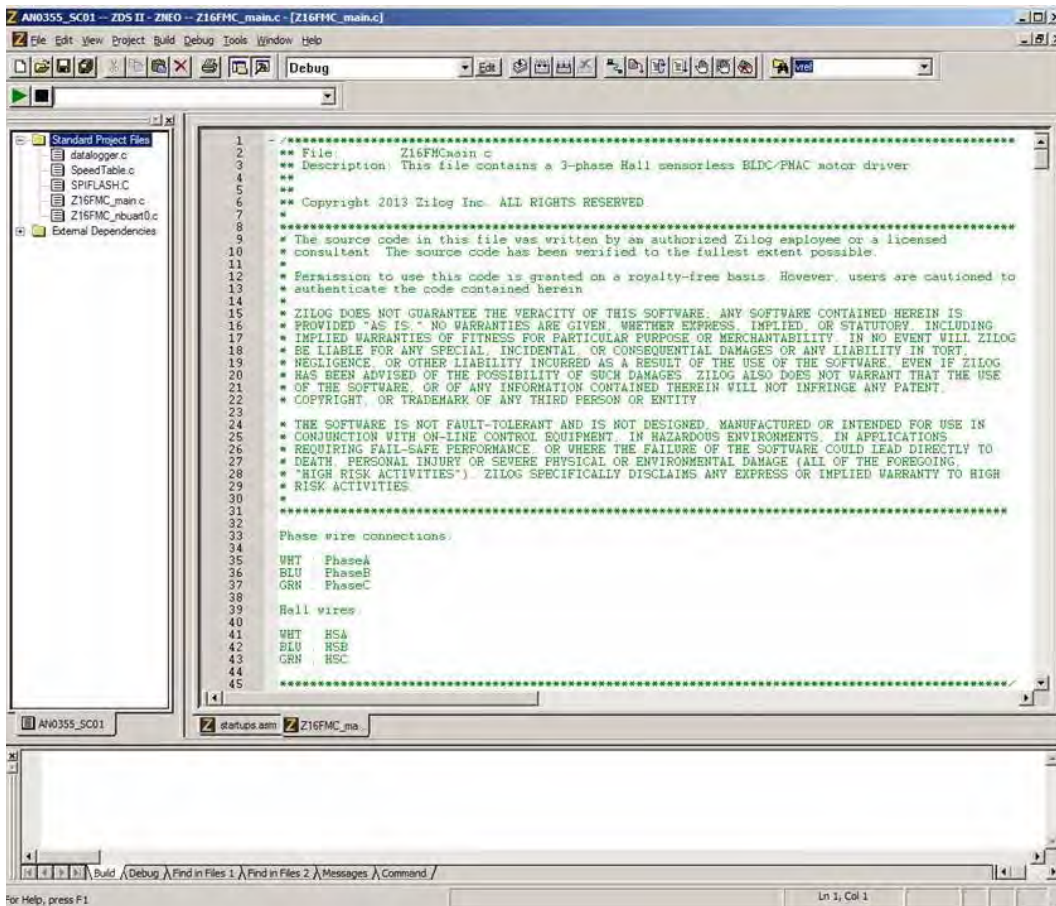

Figure 9. Zilog Developer Studio II Opening Screen
7. Select the AN0355_SC01.zdsproj project file and click **Open**. The initial ZDSII program screen will appear, as shown in Figure 9. To view the project source files, double-click the **Project Files** folder on left side of the IDE interface. Double-click an individual file to open it in the ZDSII file editor.